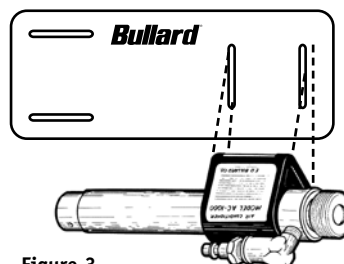
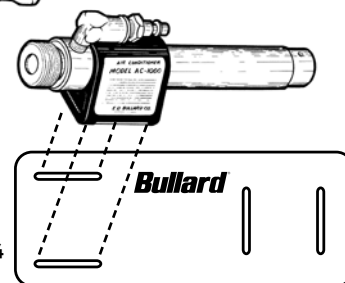

Figure 3
Figure 4
- If the device will be worn in the horizontal position, align the tube on the heat shield as shown in **Figure 3**. If the tube will be worn in the vertical position, align the tube on the heat shield as shown in **Figure 4**.